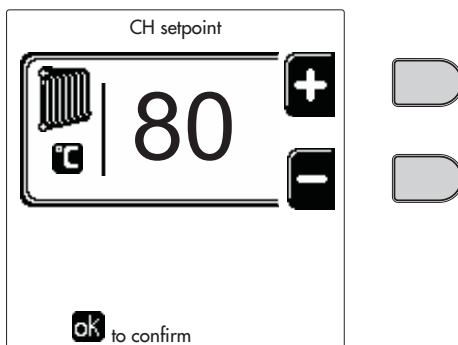
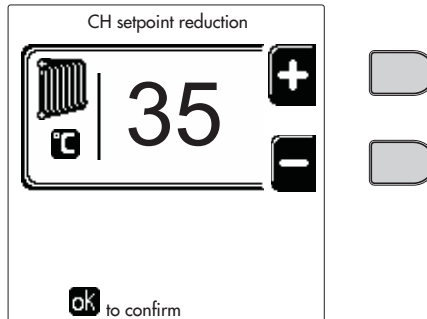
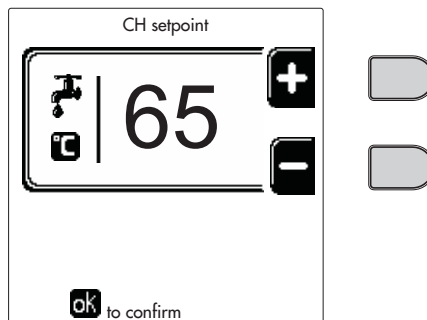
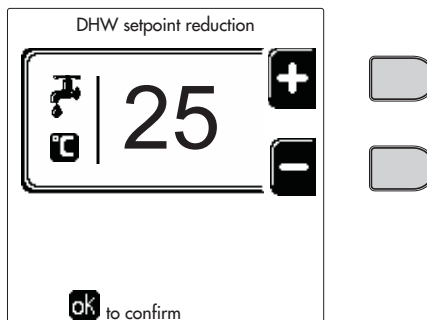

fig. 12
fig. 13
fig. 14
fig. 15
- **ON**. In case of a Heating/DHW demand, the boiler works at the set Heating/DHW (fig. 12/fig. 14) Adjustment Temperature.
-  In case of a Heating/DHW demand, the boiler works at the Reduced Adjustment Temperature. The Reduced temperature is obtained by subtracting the Reduction Adjustment Temperature value (fig. 13/fig. 15) from the set Heating/DHW Adjustment Temperature (fig. 12/fig. 14).